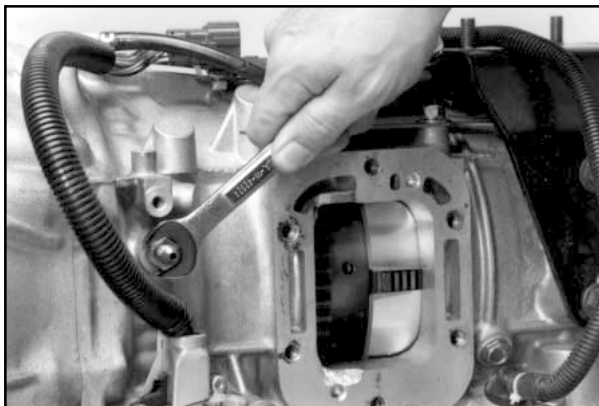

Figure 6
6. Remove the pipe plug from the transmission pressure port (**Figure 6**) and install the male adapter (379749) in the opening.